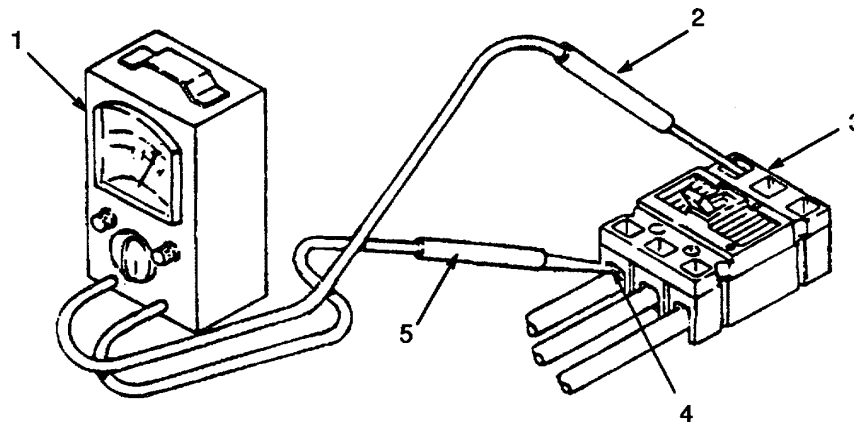

Figure 4-7. Circuit Breaker Test.
- a. Place circuit breaker to dosed (ON) position.
- b. Preset multimeter (1, Figure 4-7) for continuity testing and touch one probe (2) to input terminal (3) of circuit breaker and touch remaining probe (5) to associated output terminal (4). Continuity must be present.